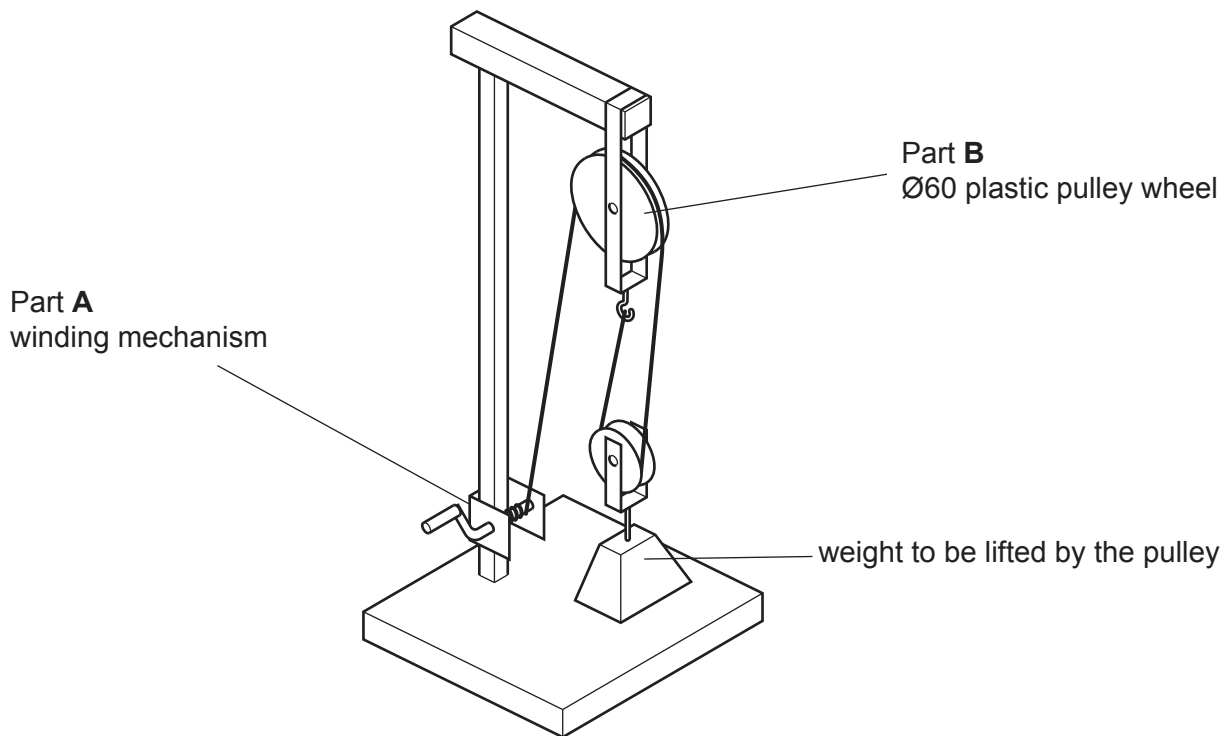

Fig. 3.1
- 3 Fig. 3.1 gives details of a model of a compound pulley system which is to be made in a school workshop.